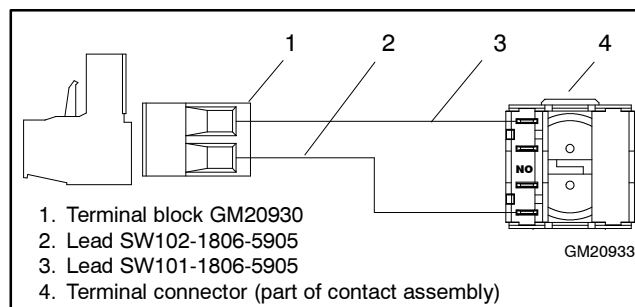

Figure 7 Switch Assembly Electrical Connections
- 3.1 Connect leads SW101-1806-5905 and SW102-1806-5905 to the switch assembly as shown in Figure 7.
- 3.2 Connect the corresponding leads to the terminal block (GM20930) as shown in Figure 7.